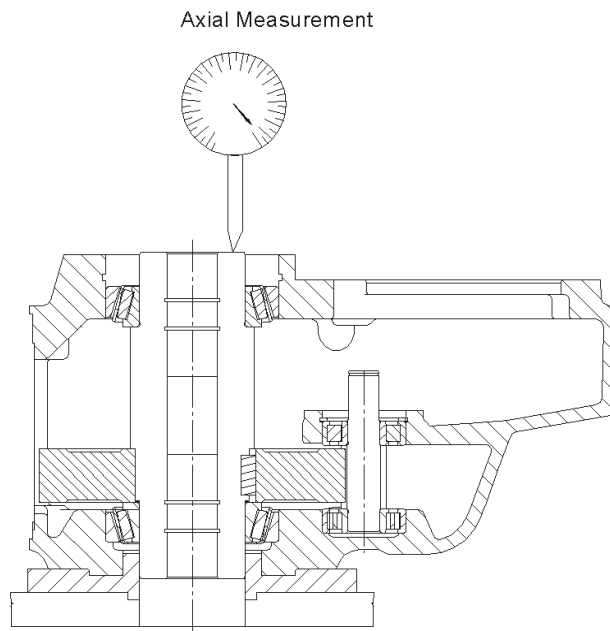

Figure 8.6
- 8.4.1. Place a dial gauge to the hollow shaft facing and set to zero (see figure 8.6)